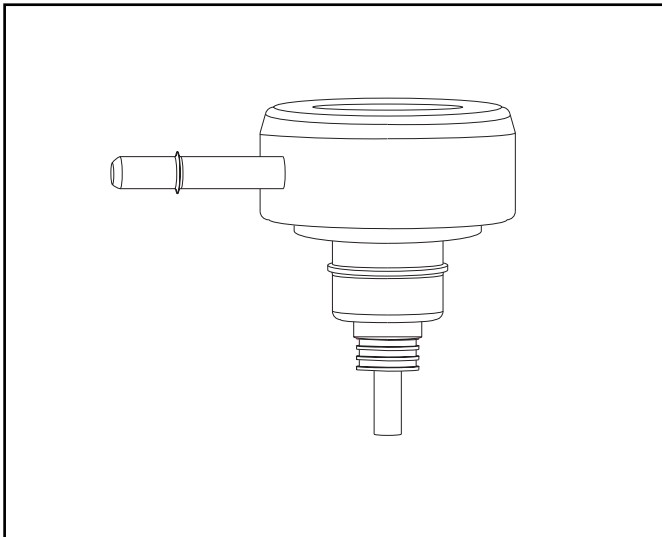

Figure 3-14 - In-Line Fuel Filter/Regulator (Typical)
1. Release injector clip by sliding off injector (Figure 3-14).
**In-Line Fuel Filter (Pump-in-Tank)***Figure 3-14***Important**